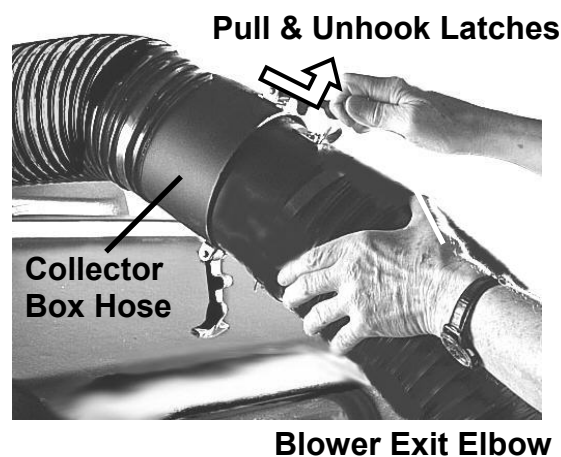
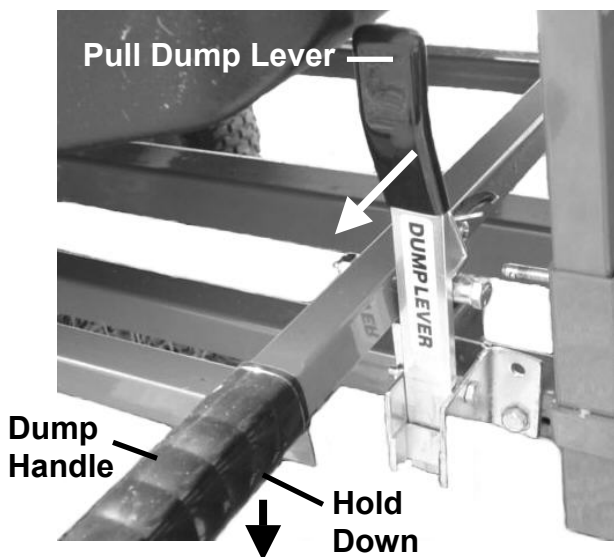
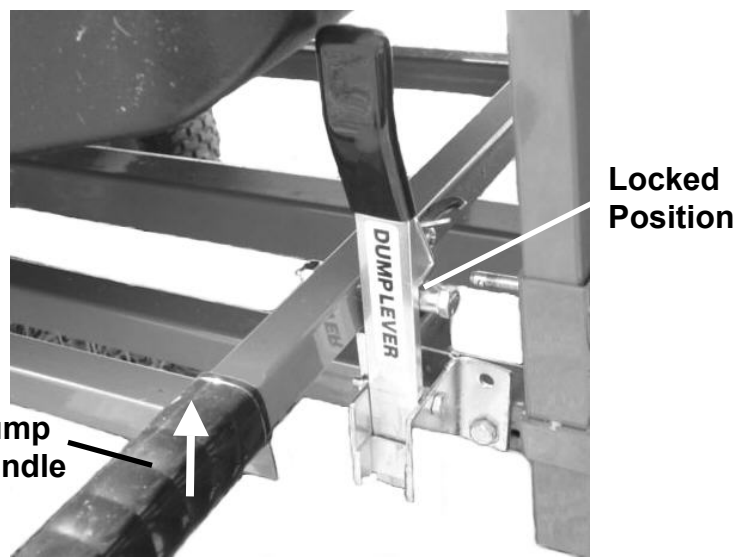

Figure 34
Figure 35
Figure 36
1. Disconnect the Collector Box Hose from the Blower Exit Elbow by releasing the two flexible latches (Figure 34) and separate the hoses.
2. Remove the Rear Panel of the Collector Box by releasing the six (6) fasteners located at the sides, top and bottom of the panel. Lift the Rear Panel off the mounting pins on the Collector Box Cover.
3. While holding down on the Dump Handle, pull the Dump Lever (Figure 35) to unlock the Tilt Bed and then raise the Tilt Bed using the Dump Handle (Figure 36).
4. After dumping the load, lower the Tilt Bed until the Dump Lever locks into place (Figure 36), and replace the Rear Panel.